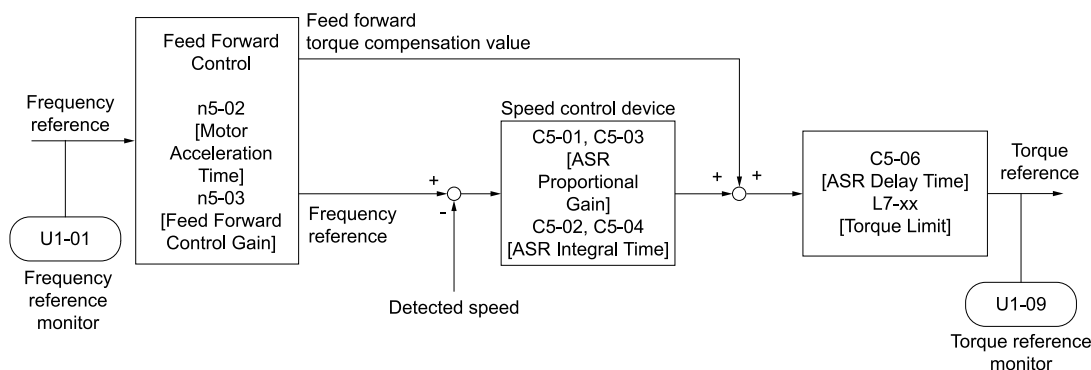

Figure 12.127 Configure Feed Forward Control
Increase the values set in *C5-01* and *C5-03* [ASR Proportional Gain] to apply feed forward control to machines that have low rigidity and are possible to have hunting and vibration or to machines that have a large quantity of inertia. Refer to Figure 12.127 for more information about parameters related to feed forward control.
- If you cannot do Inertia Tuning, refer to Figure 12.127 and set the parameters related to feed forward control individually.